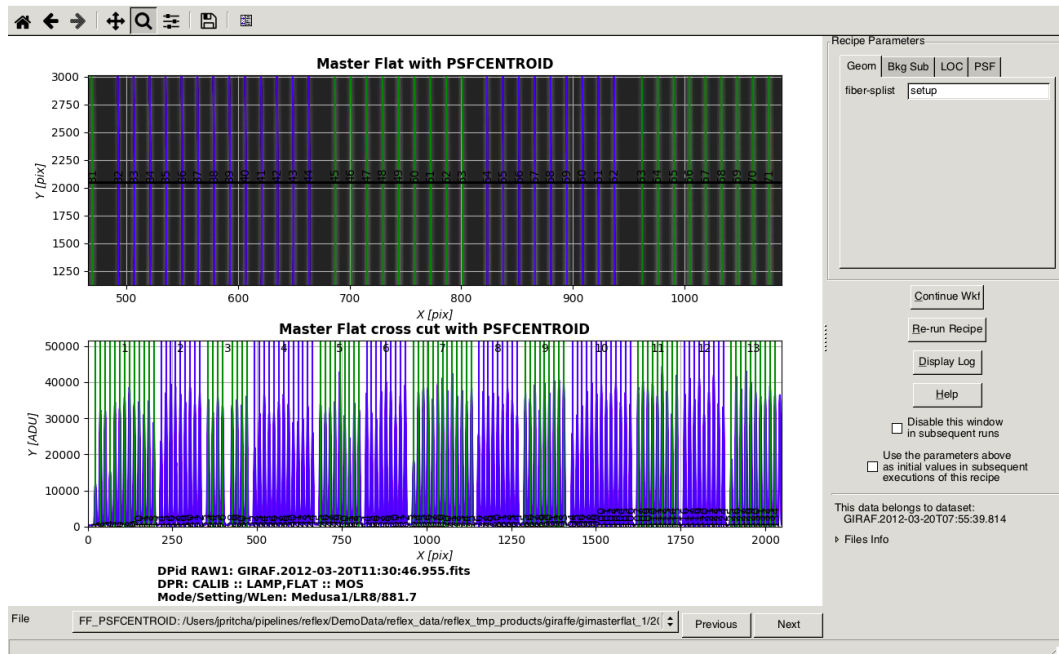

Figure 3.6: *The zoomed display of the MasterFlat.*
10. **Interact with the displays:** click on the Matplotlib Zoom button,  ¹⁰ to enter Zoom mode. Now click and hold the mouse button while over the image or cross-cut display subplots and then drag the mouse to define a rectangular region (see figure 3.5) which will be redisplayed zoomed into the respective display window (see figure 3.6).